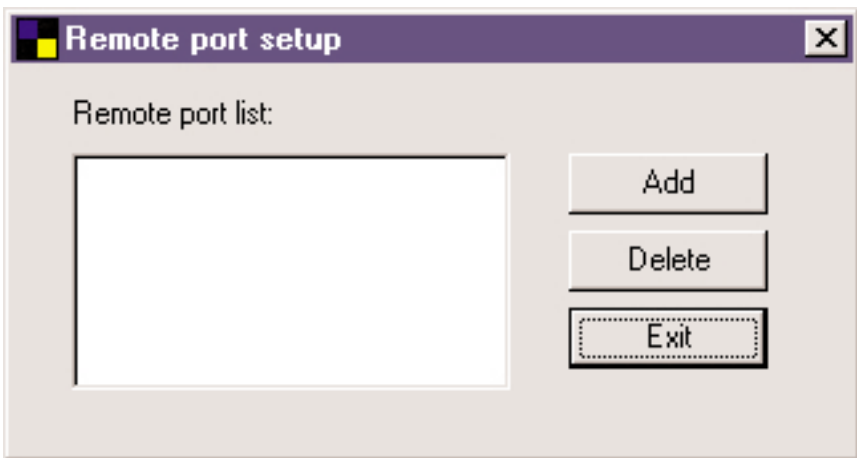

Figure 4-31. Remote Port Setup screen.
1. Create a remote port list. To do this, go to the Remote Port Setup screen (Figure 4-31), then click on the **Add** button. To delete a port from the list, click on the **Delete** button. To exit the Remote Port Setup screen, click on the **Exit** button.
2. Once you click on the **Add** button (Figure 4-31), the Create Remote Port screen (Figure 4-32) appears. Type in the print server's name, IP address, select used ports, and enter each port's LPR queue name.